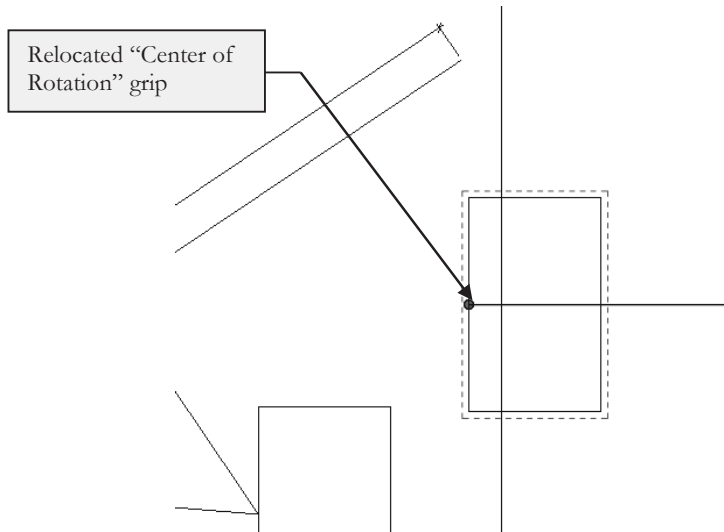

FIGURE 3-3.9 Rotate tool; relocated Center of Rotation grip
19. Click and drag the “Center of Rotation” grip to the left and *Snap* to the midpoint of the vertical line (Figure 3-3.9).